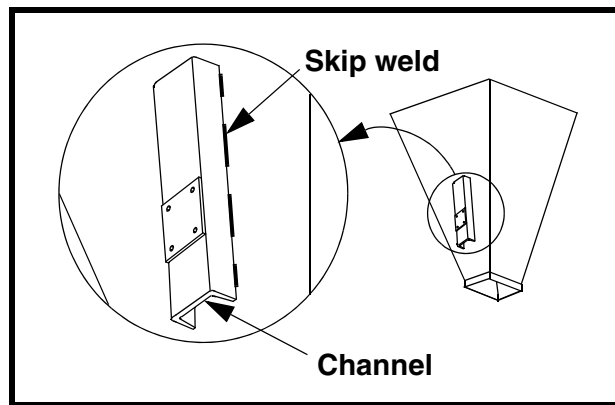

Figure 3. Skip Weld
- c. See Figure 3. Skip weld channel or beam onto hopper wall: Weld 3 in. (76 mm), then skip 2 in. (51 mm). Do not weld last 1 in. (25 mm) or either end of beam or any corner.